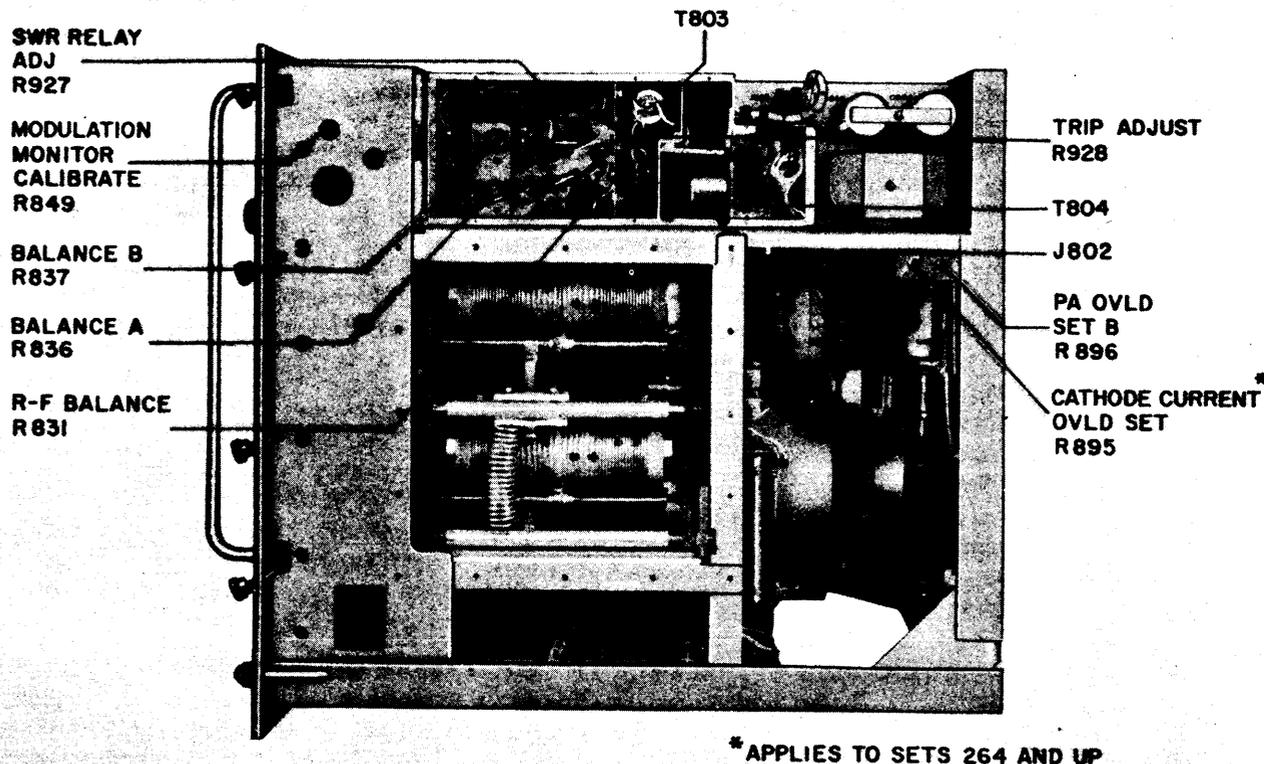

Figure 6-12. Radio Frequency Amplifier AM-2121/WRT-2 Right Side of Chassis, Electrical Adjustments
Step 2. Pull out the unit drawer containing Radio Frequency Amplifier AM-2121/WRT-2. Engage the interlock switch. Refer to figure 6-12 and locate r-f output jack J802. Remove P182 and connect Dummy Load DA-91/U to J802. Use the UG-566/U T-adaptor at J802 and connect the dummy load to the T-adaptor with an eight-foot length of RG-8/U coaxial cable terminated with UG-572/U and UG-573/U connectors. Do not remove any subassembly cover plates from the unit except when it is necessary to gain access to components or test points mentioned in the procedure which follows.